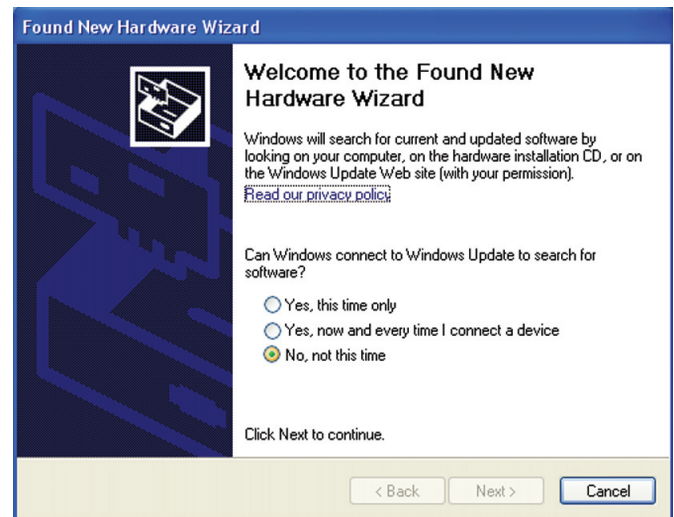

Figure 5.1.2 Use Windows Update Dialog
- r. The “Found New Hardware Wizard” will appear as shown in Figure 5.1.2. Choose “No, not this time,” then click “Next”.